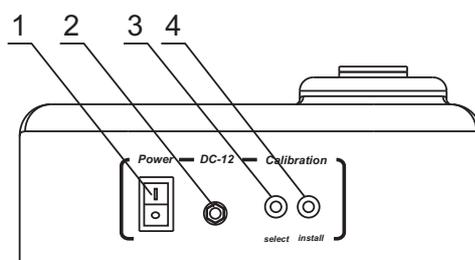

Fig.2 Rear panel
- Alternatively connect the external power supply unit to the socket (fig.2/2) on the rear side of the unit.
- 3.4.2. Switch ON the unit using the **Power** switch (Fig.2/1) on the rear panel (position I).
- 3.4.3. Press the **Select** button (fig.2/3) on the backside of the unit (use a thin pin with maximum diameter of 2 mm to press the **Select** and **Install** buttons). A flashing "- -" indication will be shown on the display, showing that the unit is ready to save calibrations value of the first calibration point - the empty socket.
- 3.4.4. Press the **Install** button (fig.2/4), the empty socket calibration value will be saved in the unit memory and the next calibration value is displayed (flashing figure "0.00").
- 4.2. Switch ON the unit using the **Power** switch (Fig.2/1) on the rear panel (position I).